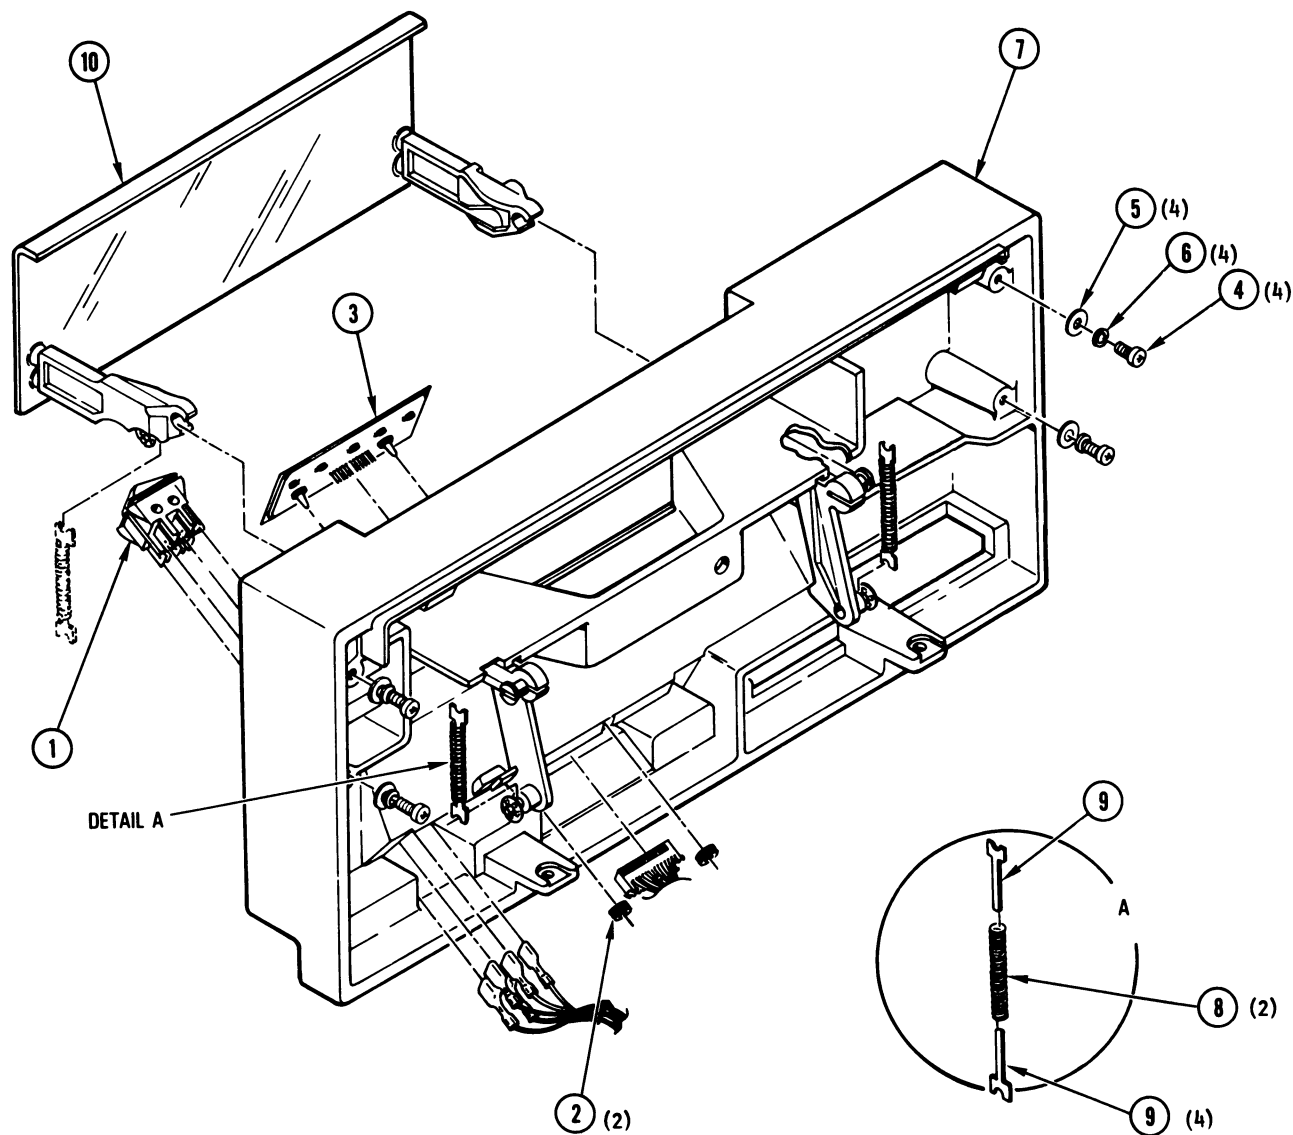

Figure 4-7. Front Panel Assembly
4-19. **Power Switch Replacement.** To replace the power switch (I, Figure 4-7) proceed as follows:
4-20. Touch Switch Replacement. To replace the touch switch (3, Figure 4-7), proceed as follows:
4-21. Front Panel Subassembly Replacement. To replace the front-panel subassembly (7, Figure 4-7), proceed as follows:
4-22. Removal And Replacement of Door Assembly. To replace the door assembly (10, Figure 4-7), proceed as follows:
- b. Remove two springs (8) and four guides (9), and push door out of front panel, using finger pressure on back of door from under side of panel.
- c. Install door assembly in front panel subassembly by snapping arms onto plastic studs of front panel assembly, as indicated in Figure 4-7.
- d. Assemble guides (9) with springs (8), with flat surfaces of guides in contact with each other.